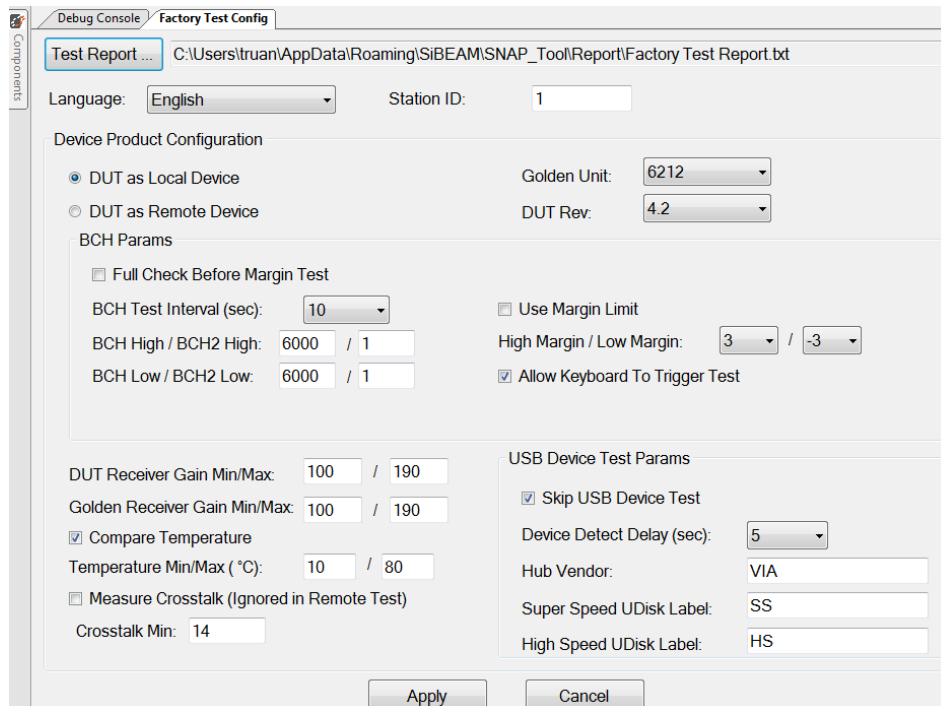

Figure 10.3. Snap_tool Factory Test Config Page
1. Before running any test cases from the RF_Link_Info page, the Factory Test Config page (Figure 10.3) should be used to configure RF link testing options.